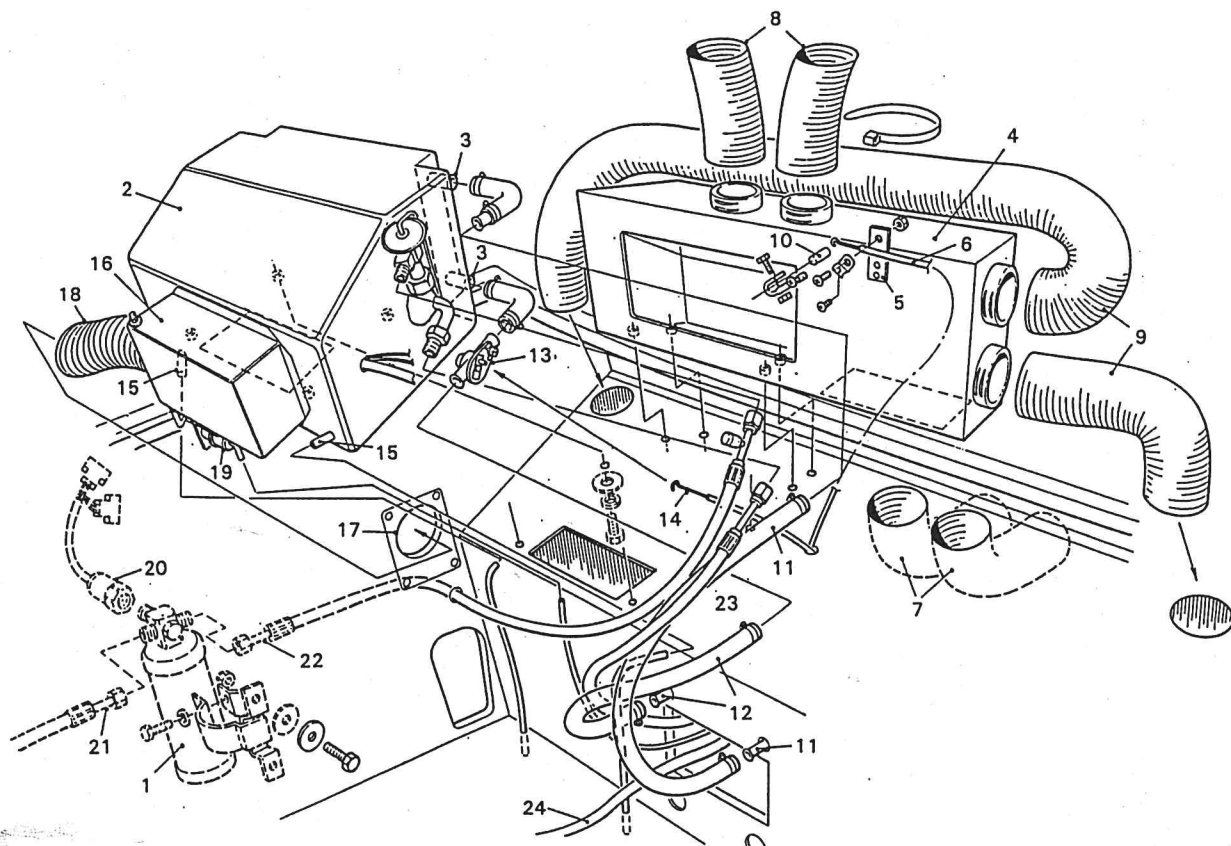

Fig. 2 Heater / Air Conditioning System, Front of Car
4. (Refer to Fig. 2). The remainder of the PAG oil ($\frac{1}{4}$ tin) should be divided between the drier Fig. 2 (1) and the air conditioning heater box Fig. 1 (6). Pour $\frac{1}{8}$ tin of oil into the drier before the unions are assembled. Pour the remaining oil ($\frac{1}{8}$ tin) into the heater box port not fitted with the expansion valve Fig.2 (23).
1. Refer to Fig. 2. Modify the plenum box (4) by making a plate (5) to provide a cable clamp mounting point (5) for the air distribution control cable. The small steel plate is 80 x 30mm. Drill three fixing rivet holes for 3.2 x 10mm pop rivets. The fourth hole is drilled for M8 bolt clearance and is in the part of the plate that will project above the top of the plenum box.
1. Refer to Fig. 2. (Note. Refer also to Fig. 3 for information but key numbers not referenced in text). Before fitting the plenum box, place it in the upright
- position, and fit the two 2.25in. air duct tubes (8) onto the two vent holes on top of the unit - secure with two cable ties. These are to connect to the air vents for the windscreen.
2. Fit another two 2.25in. air duct tubes (9) onto the vent holes on the side of the unit and again secure with cable ties - these are to connect to the vents in the passenger compartment in the footwells near the doors.
3. Place the plenum box into position over the two air ducting tubes (7). Feed one tube to the footwell through the hole marked from the template and cut. Mark and cut a hole in a similar position for the tube to go into the other footwell.
5. Pass the air distribution directional control cable (6) through from the facia, through the cable clamp on the plenum box and fix onto the swinging arm (10) using an M4 x 15mm screw washer and nut to clamp the end of the cable which is wrapped around the bolt. With the cable fully extended the distance between the cable clamp and the swinging arm should be approximately 90mm.
6. The heater water (engine coolant) connections (11 and 12) from the engine pass through the tunnel via two metal pipes (refer to Water System Module 08). Looking at the tunnel from the front of the car the right-hand pipe (11) connects to the top port (3) of the heater box and is the return pipe. The left-hand pipe (12) from the tunnel is the feed and connects through the heat control valve (13) into the bottom of the heater. The metal pipes from the tunnel are connected to the heater and valve via hoses and these are secured by jubilee clips. Inside the heater box is a heat exchanger radiator and the amount of hot water flowing into it is controlled by the valve which is cable-operated (14) from the controller on the facia.
7. To fit the heater box (2) place it in position pushed up against the plenum box and locate the Rivnuts inside the box over the template holes drilled in the top of the footwell. Fix in position using M5 x 20mm screws with spring and 'penny' washers as described for fixing the plenum box.
8. Connect the two overflow outlets (15) that drain condensation from the heater box via plastic tubing to holes drilled in the floor of the car below the power steering rack. Drill holes approximately 12.5mm diameter and insert the tubing through these applying Sikoflex sealant to hold them in place. At the heater end fix the tubing over the outlet nozzles using cable ties pulled very tight.